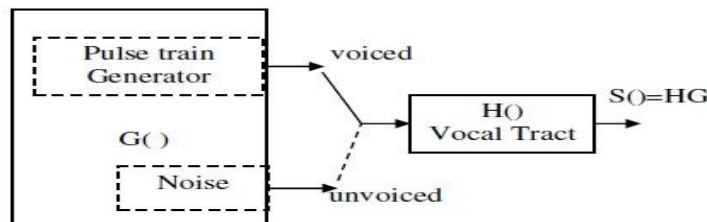

Fig. 8.14: Speech Production Model
- By the understanding of speech production mechanism, a speech production model representing the same is shown in fig. 8.14. Pulse train generator generates periodic pulse train. Thus it represents the voiced speech signal.